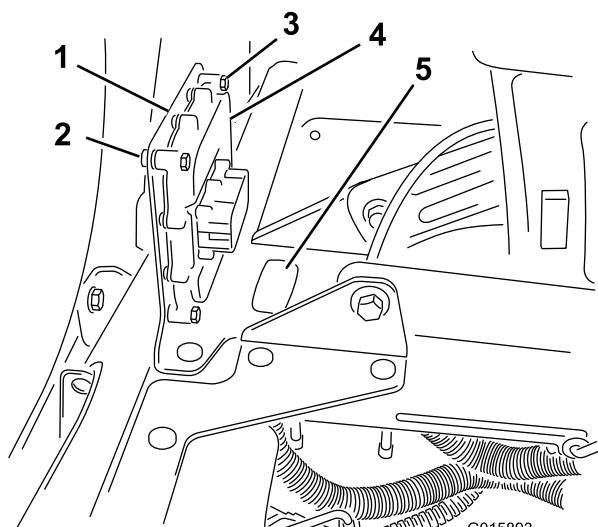

Figure 15
1. For model 5800, remove the knockout plug (Figure 15).
6. Install the mounting bracket to the machine seat frame, between and behind the seats with existing hardware (Figure 15).